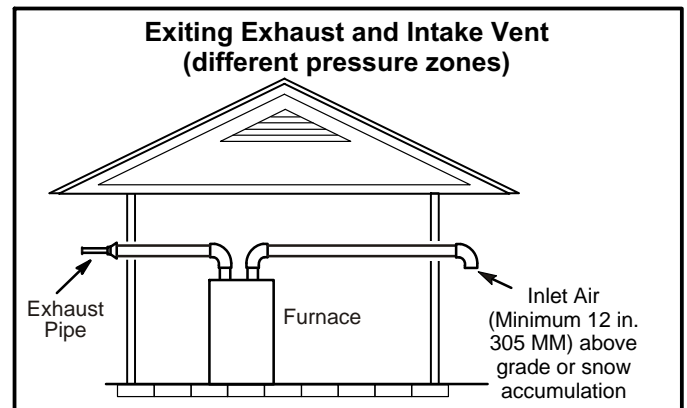
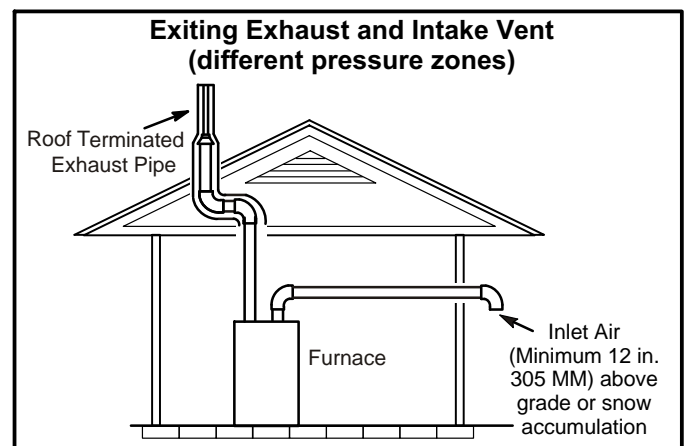

FIGURE 34
FIGURE 35
1. Intake and exhaust terminations are not required to be in the same pressure zone. You may exit the intake on one side of the structure and the exhaust on another side (figure 34). You may exit the exhaust out the roof and the intake out the side of the structure (figure 35).